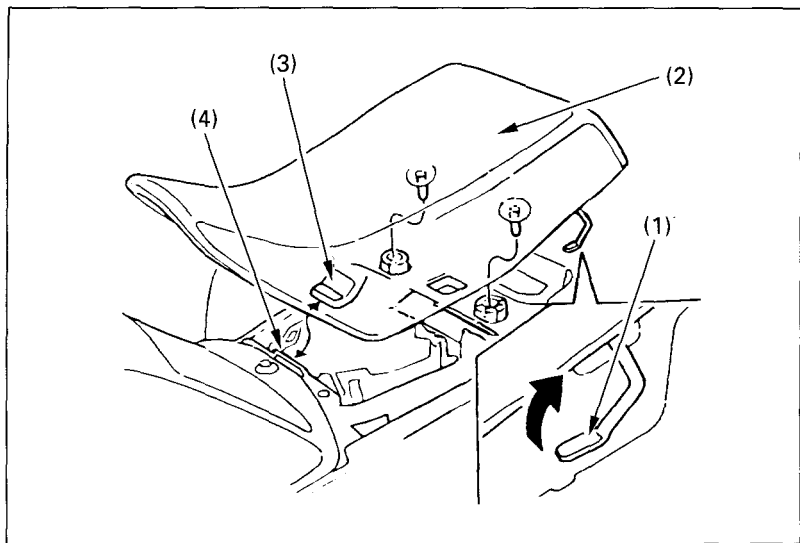

Fig. 4-35 (1) Seat lock lever
To remove the seat (Fig. 4-35), pull up the seat lock lever (1) at the left side of the seat, then slide the seat backwards and lift it up.